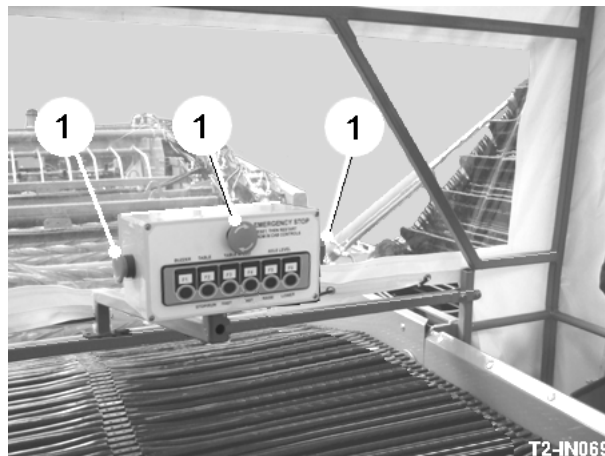

Fig 9
An emergency stop button  is present on all screens and mechanical stop buttons (item 1, fig 9) are mounted at the rear of the harvester. When any of the buttons are activated, all harvester functions are stopped.
When a harvester stop button (item 1, fig 9) is pressed, all harvester functions stop and the terminal screen 'freezes'. To restart, reset the emergency stop button and then press and hold the start button (item 2, fig 6) for 3 seconds.